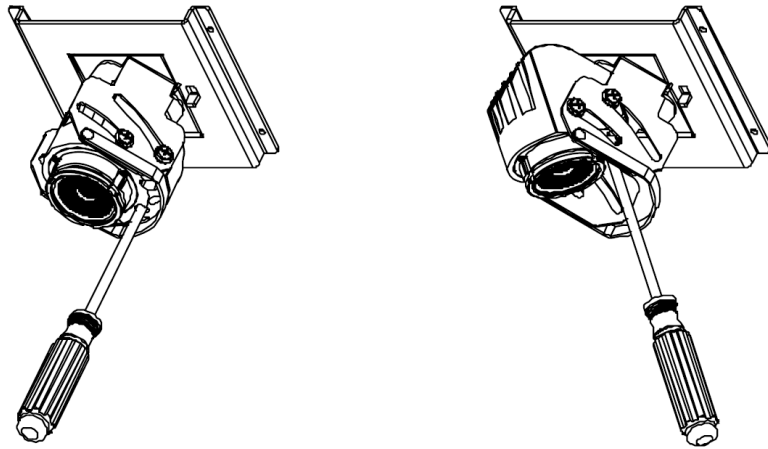

FIG 13
b. Gently push and angle to screw driver tilt light module to the desired angle. (See **FIG. 13**)